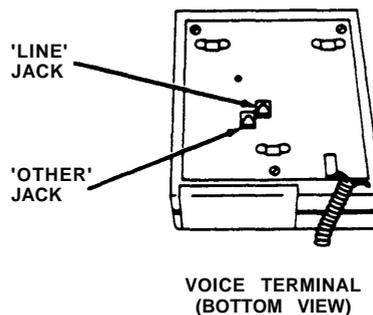

Figure 4
5. Using the D8AC Cord supplied with the adapter, connect the adapter to the "OTHER" jack on the bottom of the voice terminal (see Figure 4).